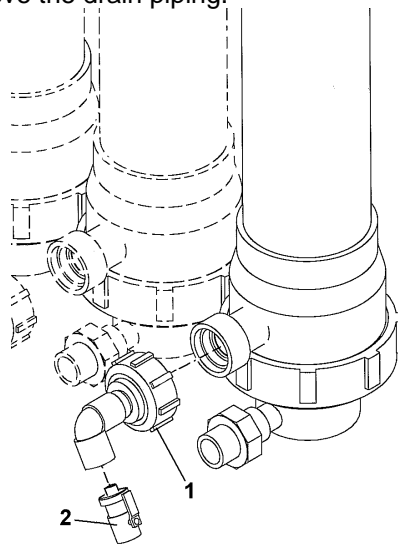

Figure 13. UF Cartridge Drain Piping.
1. Refer to Figure 13 for this piping.
3. Tighten the unions (1).
4. Install the drain valve (2) if necessary.